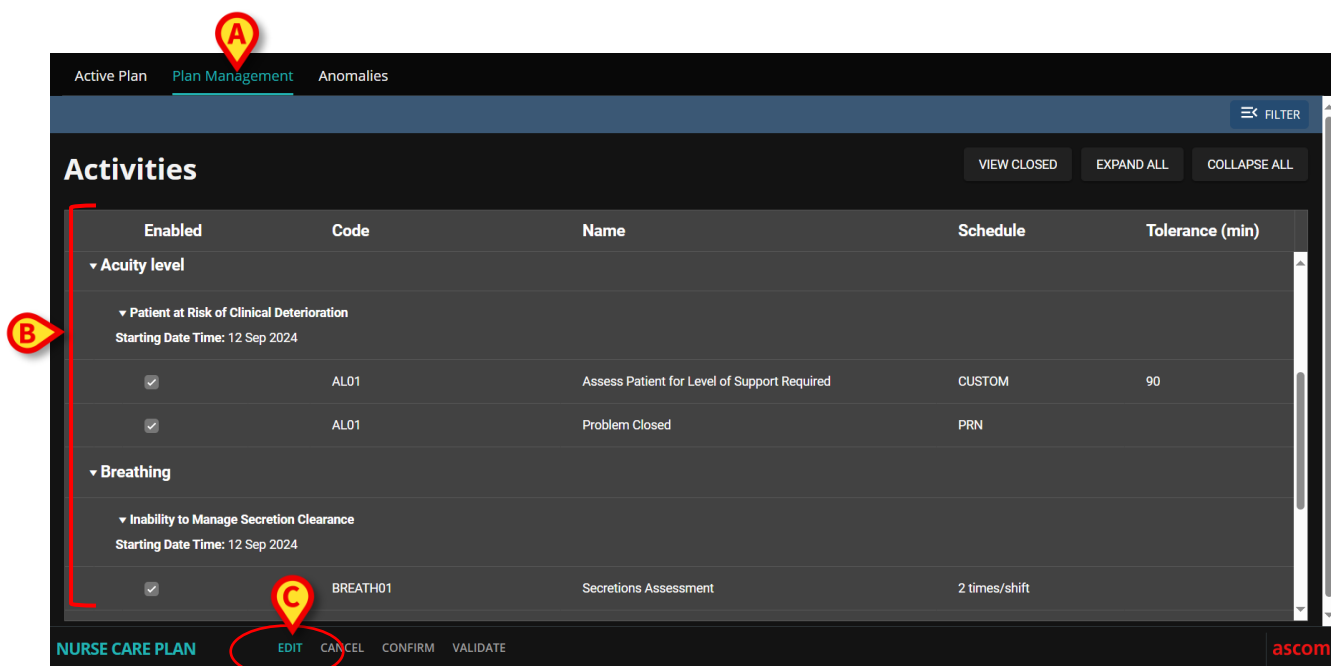

Fig 7
- Click the PLAN MANAGEMENT tab (Fig 7 **A**).
The “Plan Management” screen is displayed (Fig 7). The already present activities are listed on the page (Fig 7 B).
- Click the **Edit** button (Fig 7 C).